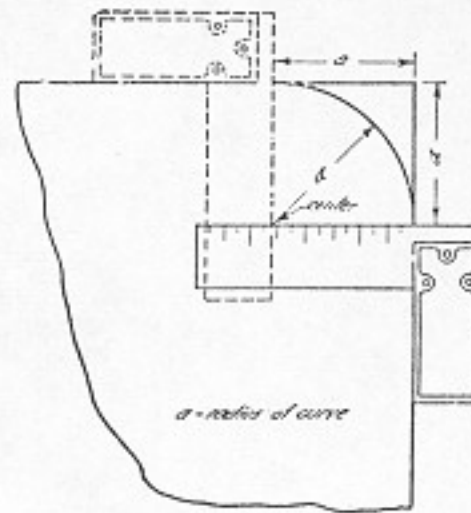

Fig. 48. Laying out rounded corners.
3. A pair of dividers or compasses is adjusted to the required radius, and the arc is drawn (Fig. 48). A pair of dividers may be made into a pair of compasses by attaching a pencil holder to one of its legs.